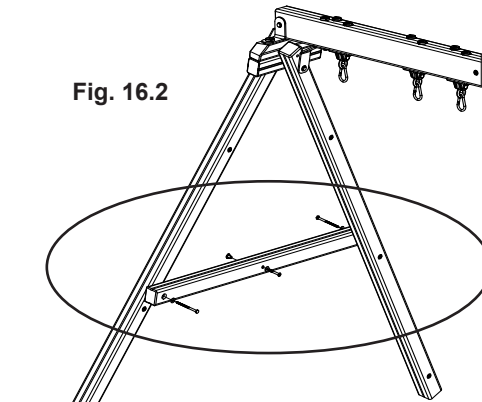
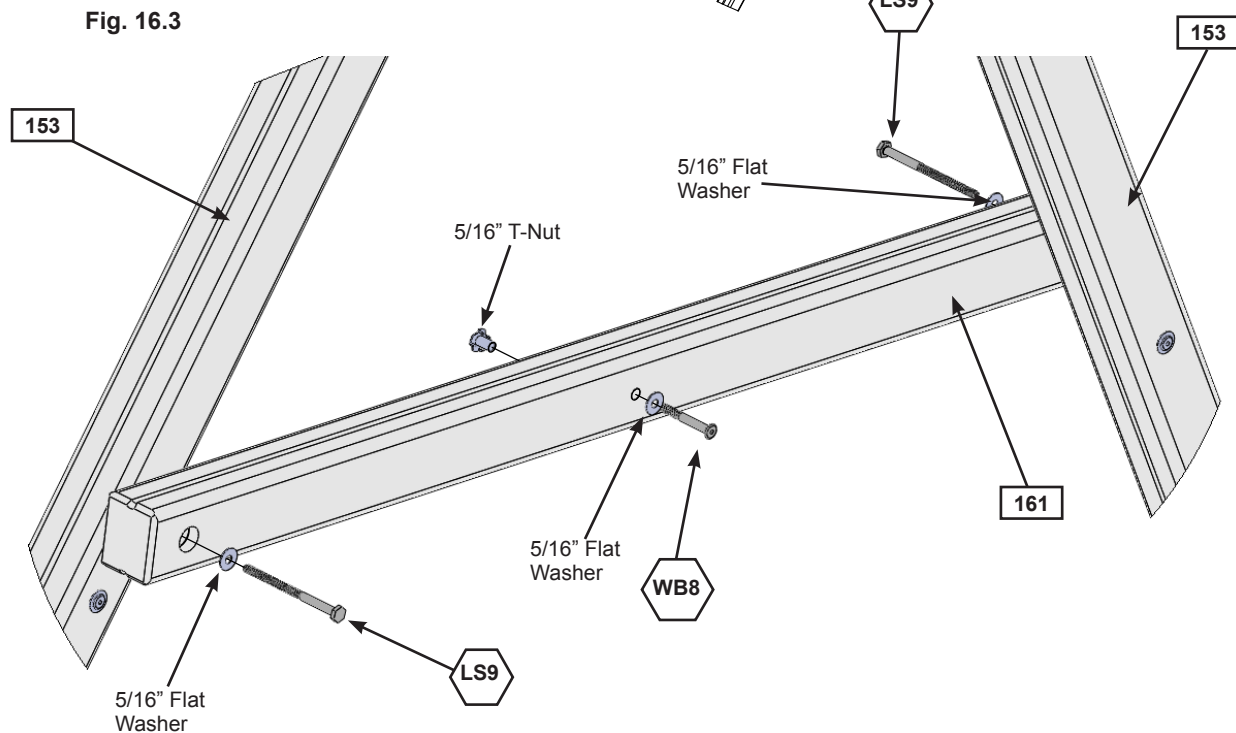

Fig. 16.2
Fig. 16.3
**B:** Place (161) Support Cross between (153) SW Posts at the previously determined spot and fasten with 1 (LS9) 5/16 x 4-3/4" Lag Screw (with flat washer) per side. (fig. 16.2 and 16.3) **Notice one side is fastened on the outside and one on the inside. It is important that each side is positioned exactly the same as the diagram. (fig. 16.3) Tighten the lag screw when you are sure (161) Support Cross is level.**
**C:** Attach 1 (WB8) 5/16 x 2-3/8" Wafer Bolt (with flat washer and t-nut) to (161) Support Cross through the middle hole. (fig. 16.2 and 16.3) **IMPORTANT! MAKE SURE THE BOLT IS ATTACHED TO MINIMIZE CHECKING OF WOOD.**